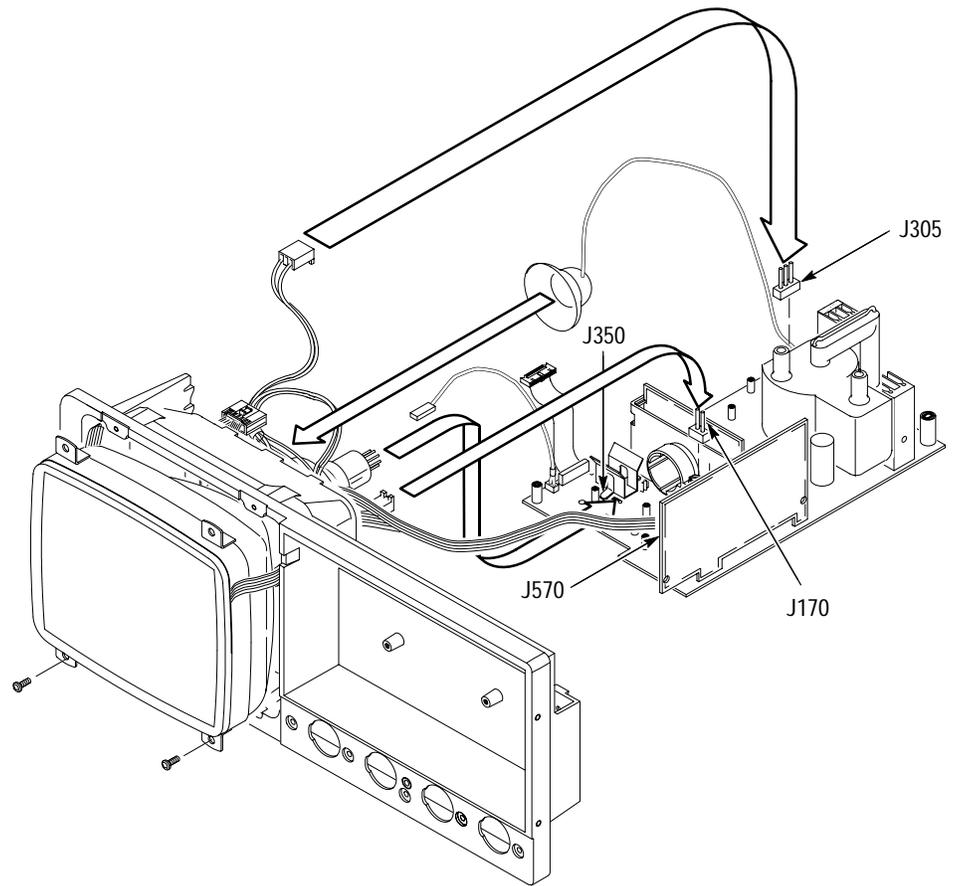

Figure 6–22: Display assembly removal
1. *Assemble equipment and locate modules to be removed:* Have handy a screwdriver with a size T-15 Torx® tip (Items 1 and 2). Locate the modules to be removed in the locator diagram *Inner-Chassis Modules*, Figure 6–2, page 6–13.
- a. Working from the rear of the oscilloscope, remove the two screws securing the low-voltage power supply to the rear chassis. See Figure 6–21.
- b. Now, working from the top of the oscilloscope, remove the seven screws, indicated in Figure 6–21, that mount the supply to the main chassis.
- c. Grasp the supply at the points indicated in Figure 6–21 and lift the board up out of the oscilloscope to complete removal.
5. *Remove the display supply board:* Use Figure 6–23 as a guide.
- c. Locate the modules to be removed in the locator diagram *Inner-Chassis Modules*, Figure 6–2, page 6–13.
3. *Remove the front subpanel:* Remove the six screws securing the front subpanel to the main chassis. (See Figure 6–24 for screw locations.) Lift the front subpanel up away from the main chassis to complete the removal.
- a. Align the front subpanel to the main chassis, taking care to ensure that the main chassis slips into its alignment slot on the front subpanel (see magnified view, Figure 6–24.) Then reinstall the six screws removed in step 3.